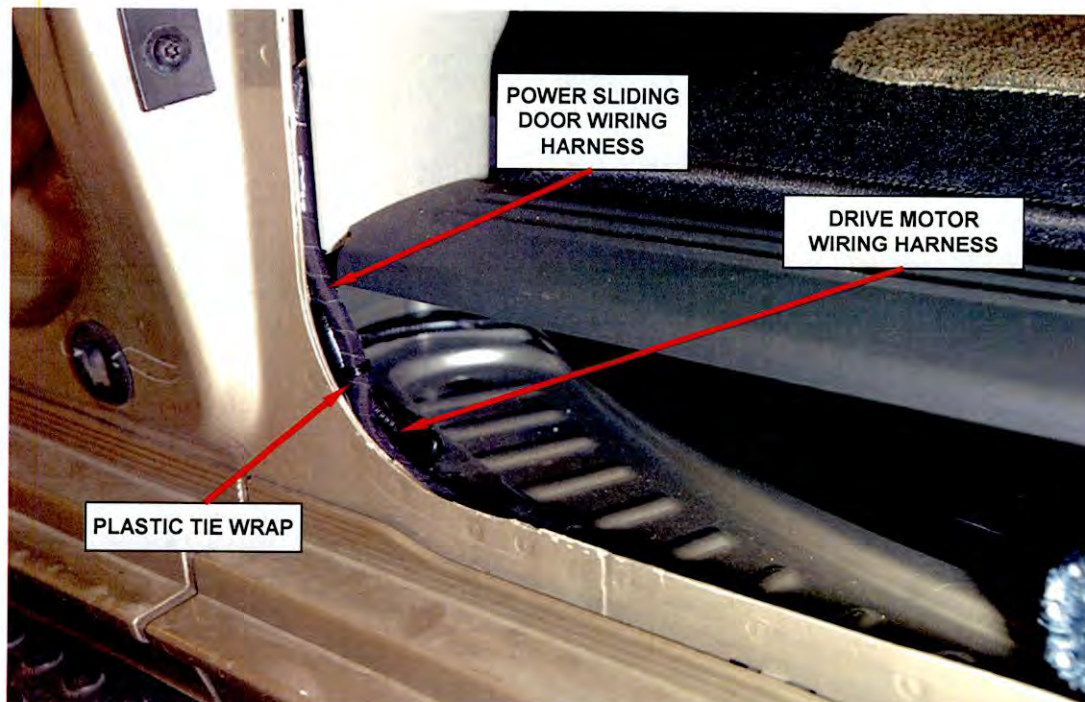

Figure 8 – Tie Strap and Wiring Harness Locations
29. Using the supplied plastic tie strap, secure both harnesses together as shown in Figure 8. The power sliding door wiring harness must be routed to the rear (in car position) of the drive motor wiring harness.